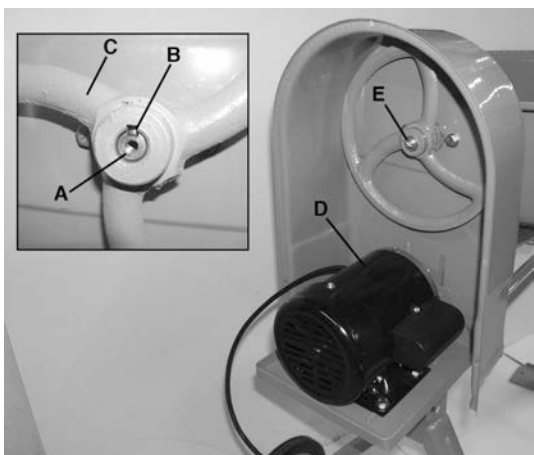

FIGURE 10
3. Clean the pinion shaft (A) Fig.10 of all plastic protective material and other debris. Also clean out any debris from the motor pulley's hub. Position shaft retaining key (B) into the pinion shaft slot.
4. Smear a few drops of lubricating oil on the pinion shaft and squarely push the large drum pulley (C) onto the pinion shaft so that the groove in the pulley engages the shaft retaining key. The pulley should be flush with the step on the pinion shaft.
5. Place the motor (D) Fig.10 onto the motor plate.
7. Once the drum pulley is pushed in all the way, secure the pulley to the pinion shaft using a thin pan head screw, spring washer and washer (E) Fig.10.